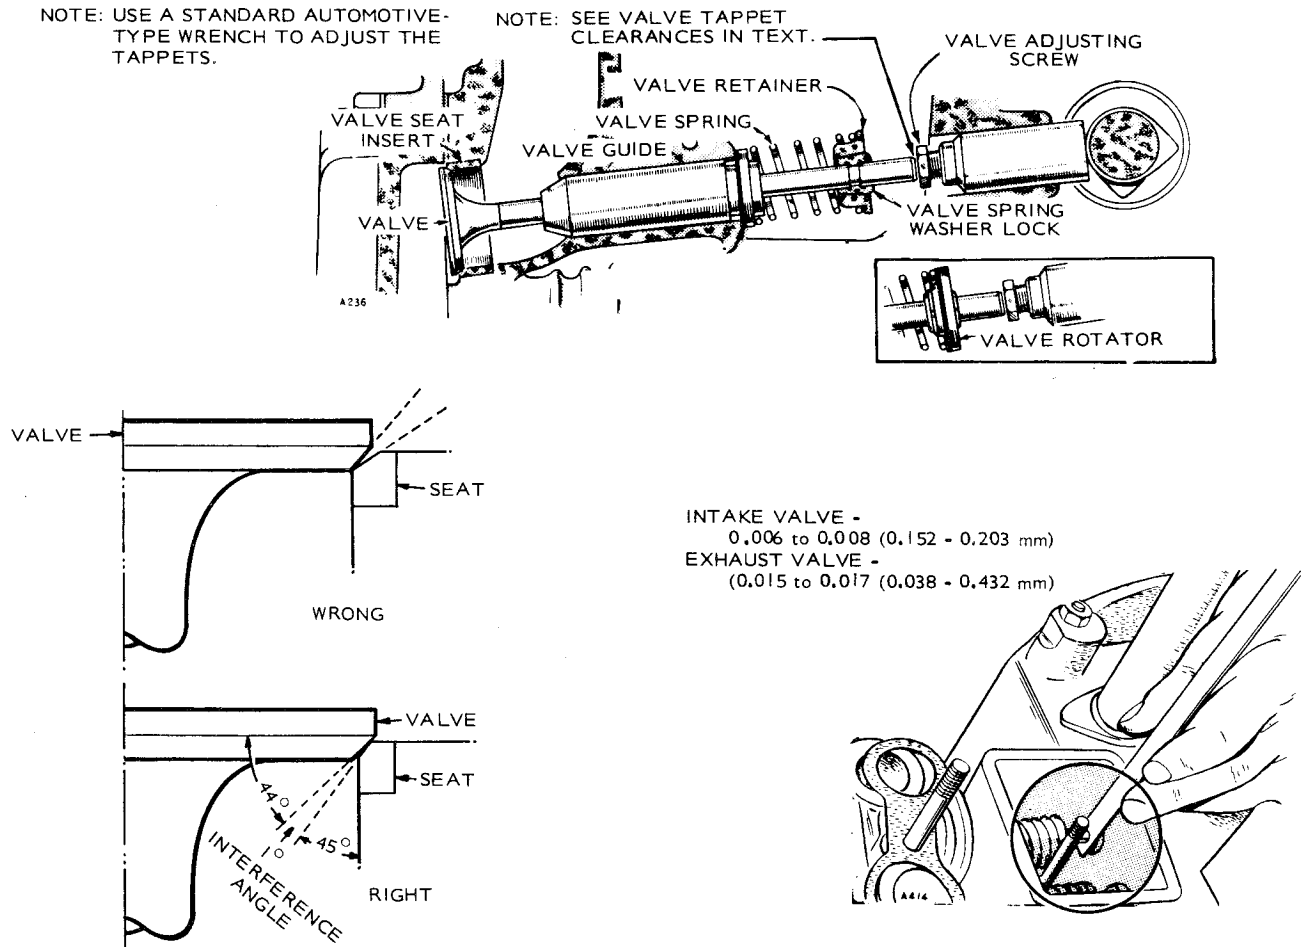

FIGURE 17. VALVE SYSTEM AND ADJUSTMENTS
The valve *face* angle is 44 degrees. The valve *seat* angle is 45 degrees. This 1-degree interference angle results in a sharp seating surface between the valve and the top of the valve seat. The interference angle method of grinding valves minimizes face deposits and lengthens valve life. See Figure 17.
3. Continue about 1/4 turn until mark on flywheel and TC mark on gear cover are in line. This should place the left-hand piston at the top of its compression stroke, the position it must be in to get proper valve adjustment for the left-hand cylinder. Clearances are listed in the table of *DIMENSIONS AND CLEARANCES*. For each valve, the thinner gauge (minimum) should pass freely between the valve stem and valve tappet but the thicker gauge (maximum) should not. Refer to Figure 17.